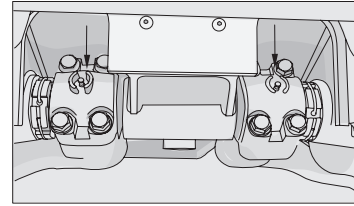

Figure 4-24
2. Add lubricating grease to the half shaft's bush (Figure 4-24) (2 places)